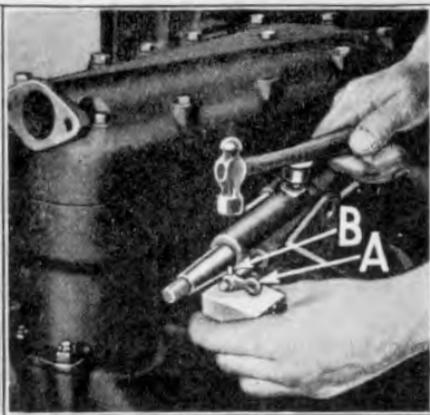

Fig. 96
- Install lead rod lever (See "A" Fig. 96) on lead rod by slipping lever over end of rod and locking it in position by driving lead rod lever pin "B" through lever and lead rod; the ends of the pin are then riveted.